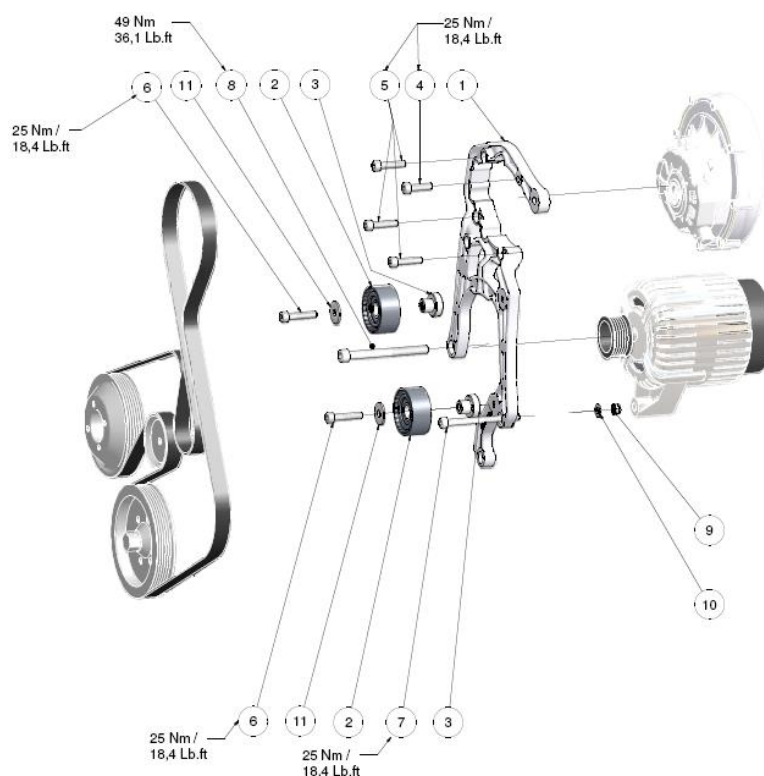

Figure 21
1. Mount the upper idle roll (Figure 21, #2) on the base plate (Figure 21, #1) with 24Nm.